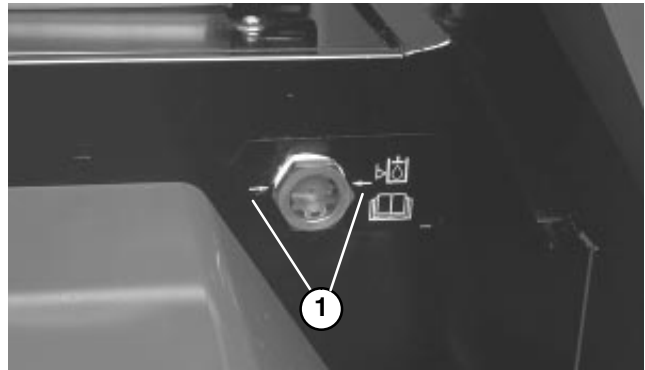

Figure 6
2. Look into sight glass (Fig. 6). Oil level should be even with arrows when checking warm oil. Oil will be 1/4 to 1/2 inch below arrows when cold.